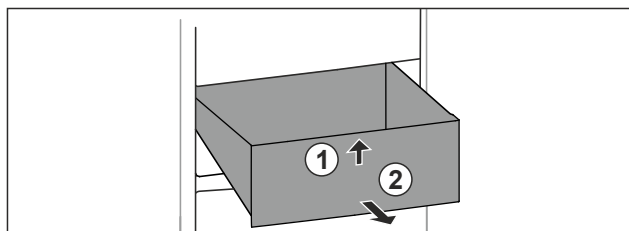

Fig. 90
- Lift up drawer at the front. Fig. 90 (1)
- Remove drawer to the front. Fig. 90 (2)